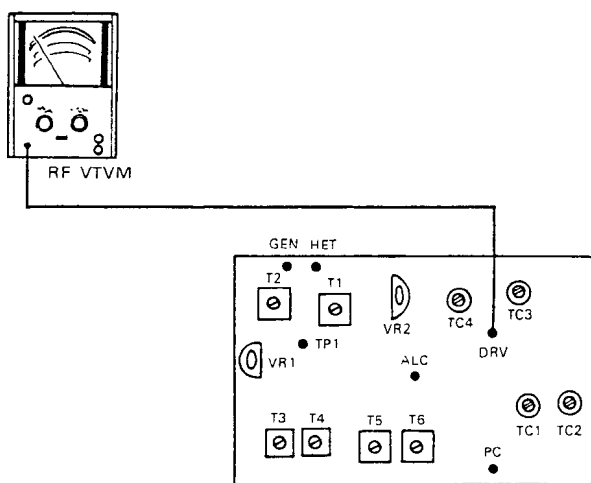
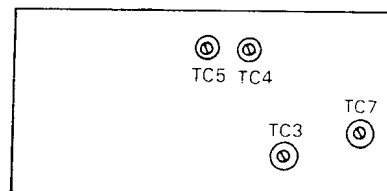

Fig. 23 MIX unit
Fig. 24 Final unit
Have the RF VTVM connected as shown in Fig. 23
- 3) Adjust TC3, TC4, TC5 and TC7, shown in Fig. 24, and also TC3 and TC4, shown in Fig. 23, to obtain the largest possible output. (Repeat the foregoing sequence several times, each time adjusting the FINAL control to maximize the output.)